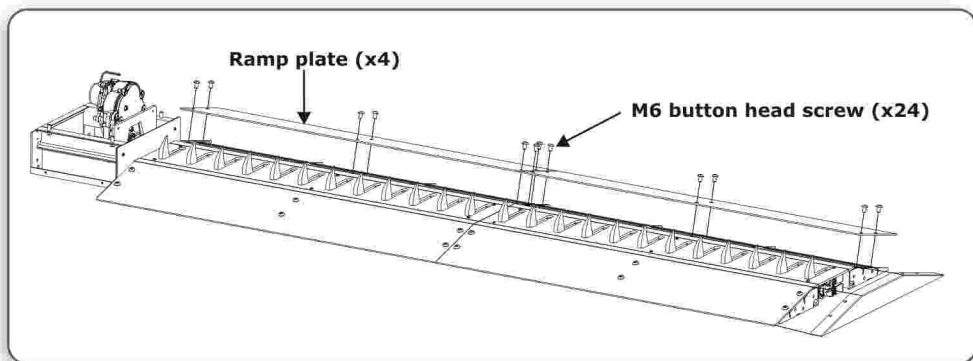

FIGURE 41. FIT THE RAMP PLATES AND MODULE END COVER
1. Using a 12V battery, drive the motor so that the drive arm rests up on the endstop when the spikes are in the "UP" position as shown in Figure 41.